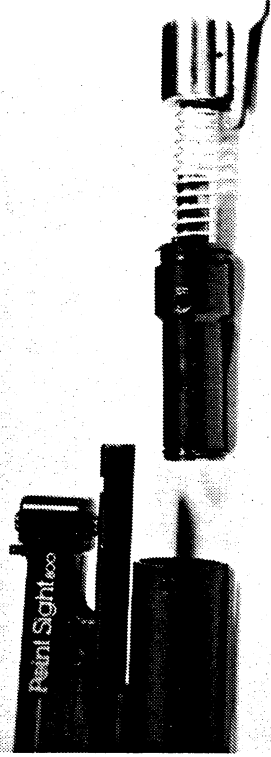

Figure 4
7. Remove bolt and hammer assembly as in Figure 4.